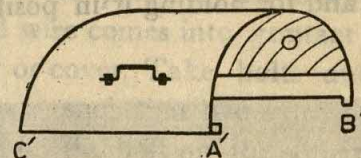

FIG. 2.4.4
4. Fix a handle at a distance of about 4 cm from one of the bent edges as shown in Fig. 2.4.4. Drill a hole at the centre of this cover